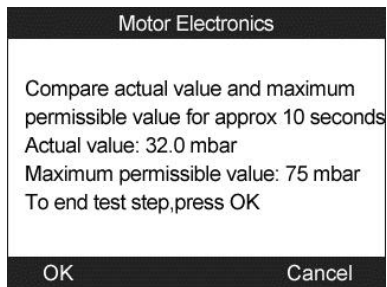

Figure 13.40
- c) Check the exhaust backpressure with engine running idle. The tool will read off the actual backpressure value and compare with the upper limit. (Figure 13.40). Select **OK** to continue the test or **Cancel** to return to previous menu.